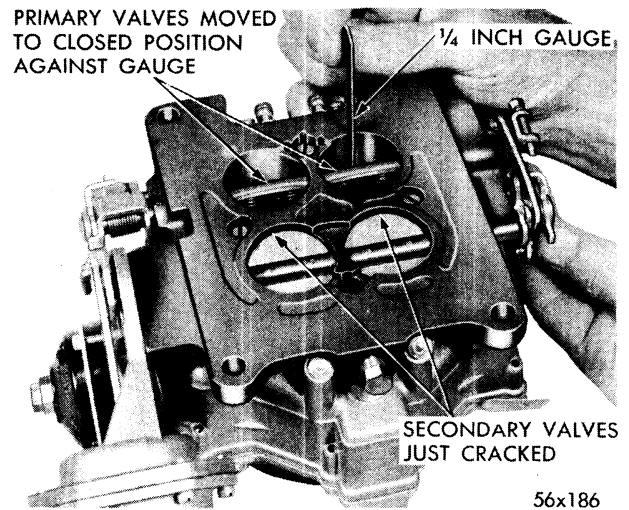

Fig. 91—Checking Opening of Secondary Throttle Valves (Step 2)
- (2) Close primary throttle valves until it is possible to insert Tool T-109-31 ( $\frac{1}{4}$  inch) unloader gauge between **upper** edge of primary throttle valve and bore (next to idle port), as shown in Figure 91. In this position, secondary throttle valves should just crack open.